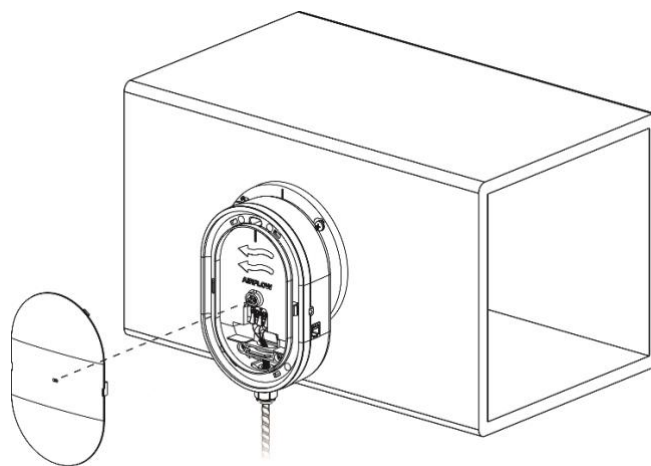

Figure 5: Once you are content that the main chassis is in place then install the front cover (snap fit).
- i. Once you are content that the main chassis is in place then install the front cover (snap fit) (Figure 5). Make sure to align the wave arrows on the mounting ring with the wave arrows on the main chassis.